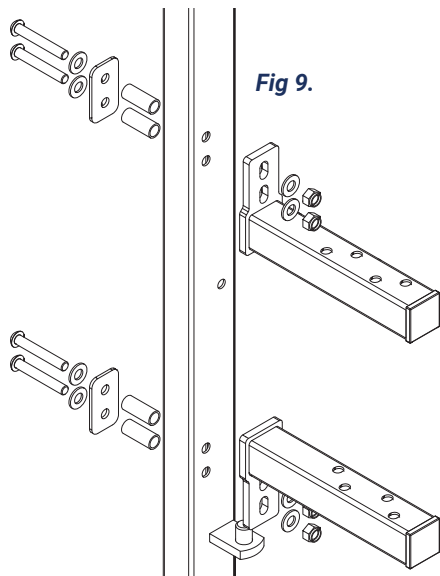

Fig 9.
1. Insert the tubes into the verticals from the inside of the crush then place the drilled plates over the tubes. Fix the arms to the crush using 4no M12 x 90 socket button head screws (Fig9).